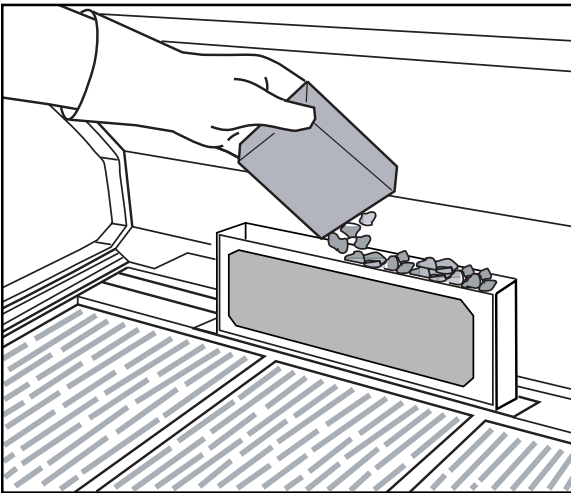

Fig. 14 Rotisserie Burner Smoker Box
3. Remove the lid from the Smoker Box with a pair of tongs, or while wearing an insulated protective mitt and place some of the presoaked material in it (see Fig. 14).
- The **Rotisserie Smoker Box**, standard with model CF9085/86, allows you enhance the flavors of foods by slow smoking with herbs, or a variety of wood chips or chunks (see Fig. 14).